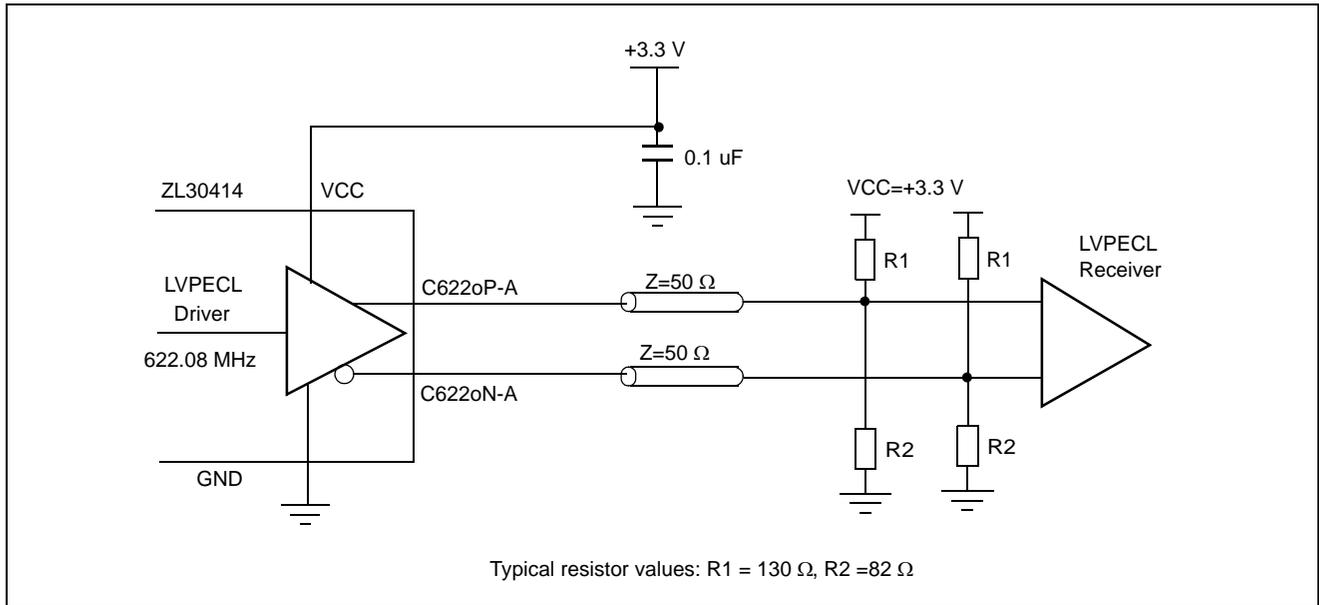

Figure 8 - LVPECL to LVPECL Interface
- Note 2: LVPECL outputs terminated with  $Z_T = 50 \Omega$  resistors biased to  $V_{CC}-2V$  (see Figure 8)